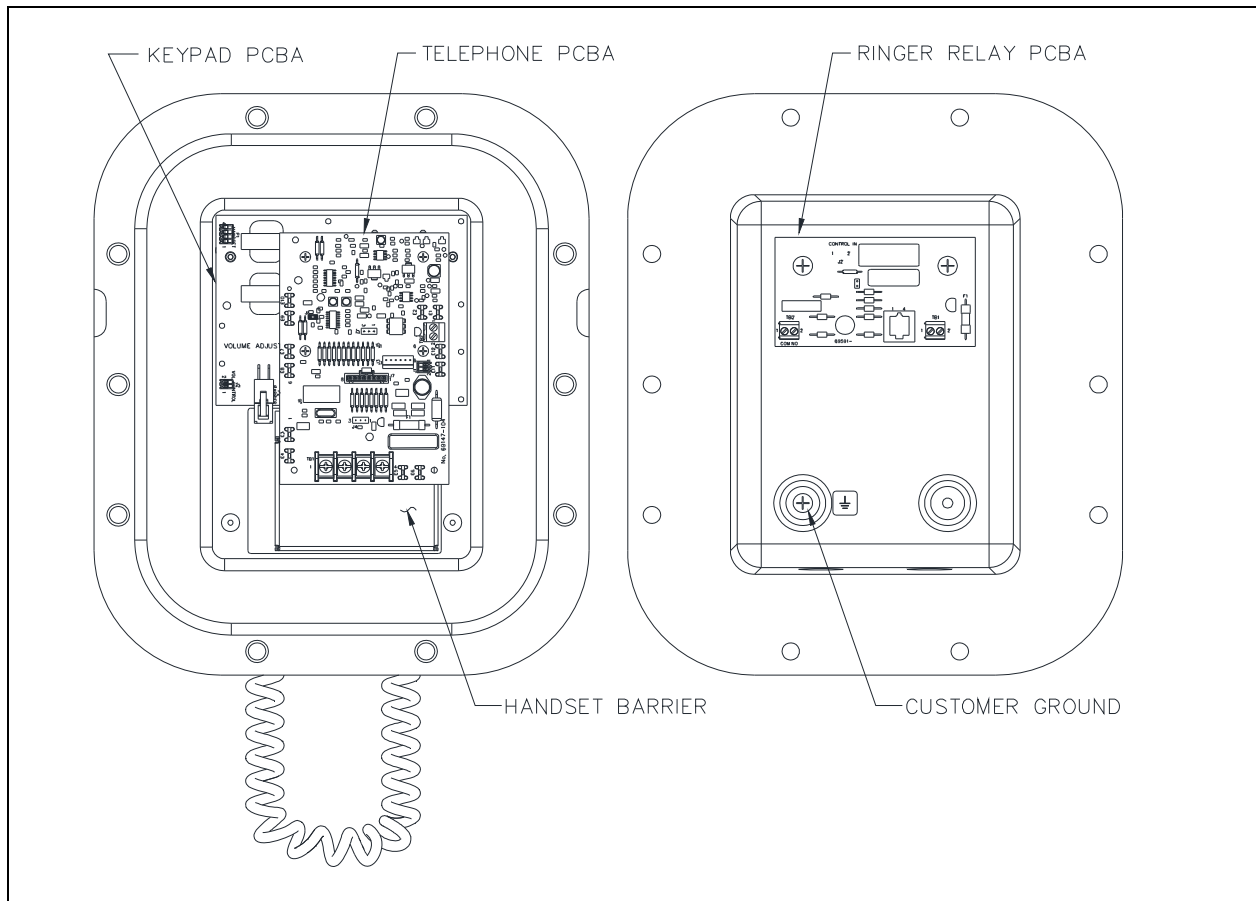

Figure 1. Division 1 Analog Telephone—Internal View
3. *Analog telephones:* Remove the four screws securing the telephone PCBA to the stand-offs mounted to the back of the front cover (see Figure 1).